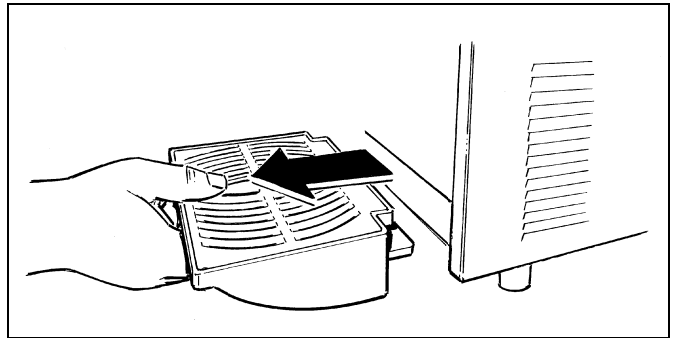

Fig. 28
- Remove the drip tray and pulling it forward (see figure 28). Wash each part thoroughly, then reassemble the parts by inversely following the procedures described above.